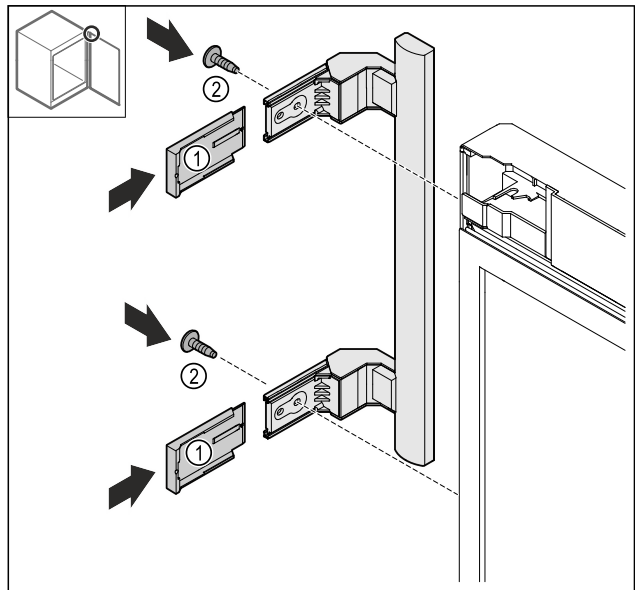

Fig. 16
- Push the covers Fig. 16 (1) on.